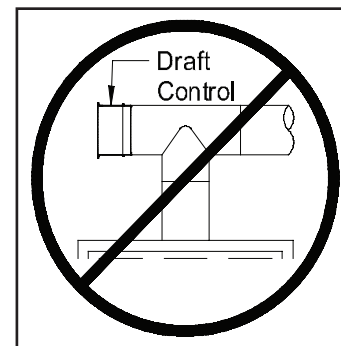

Figure 8
**NOTE:** Do not install the draft control in a vent pipe tee in the configuration as shown in Figure 8.